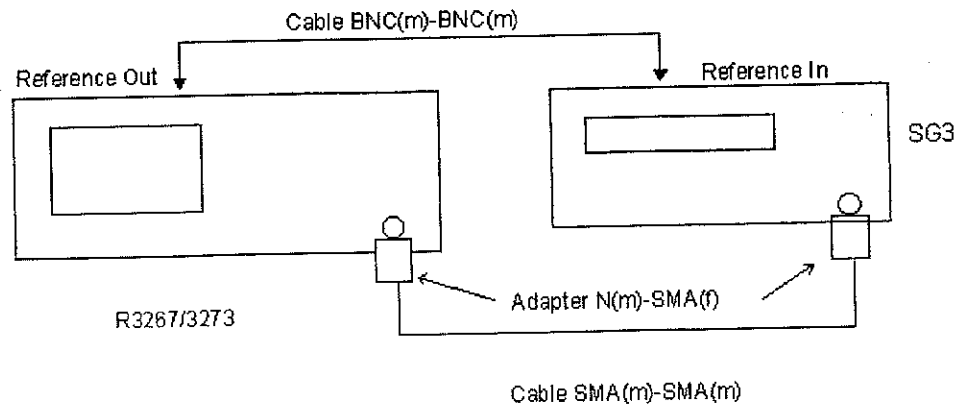

Figure 3-9 Setup of Residual FM Test
1. Connect the equipment as shown in Figure 3-9